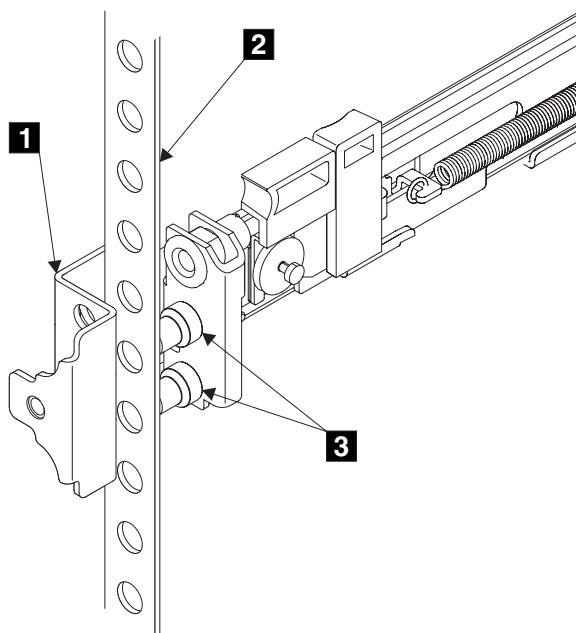

Figure 128. Installing the front end of the rail
6. Place the front end of the left rail in the rack cabinet. Align the top of the front bracket **1** (Figure 128 on page 458) with the required EIA marking that